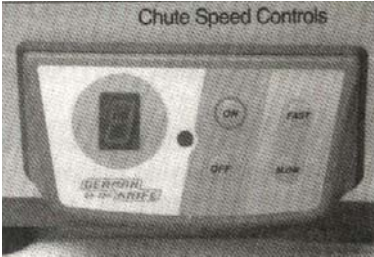

Fig 8-2
- Model GS-12A - To adjust the chute speed press the slower or faster buttons (Fig 8-2). The slicer defaults to speed 5 when slicer is unplugged and plugged back in. If slicer is turned off but not unplugged it will return to the most recent speed used.